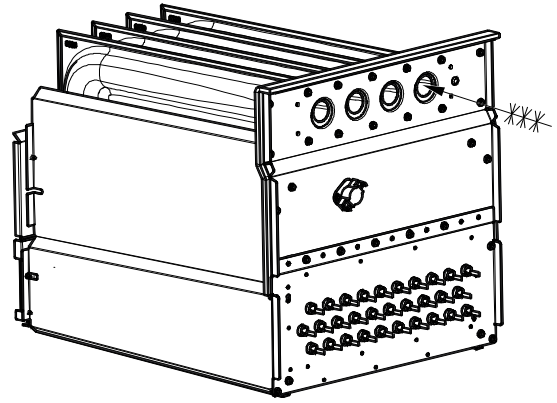

Fig. 68 – Cleaning Heat Exchanger Cell
7. Clean heat exchanger openings with a vacuum and a soft brush (Fig. 68).